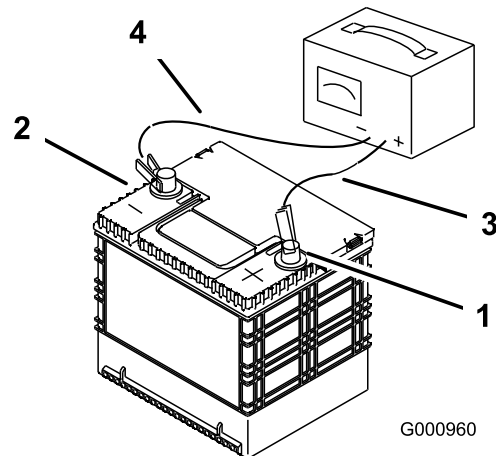

Figure 50
3. When the battery is fully charged, unplug the charger from the electrical outlet, and disconnect the charger leads from the battery posts (Figure 50).